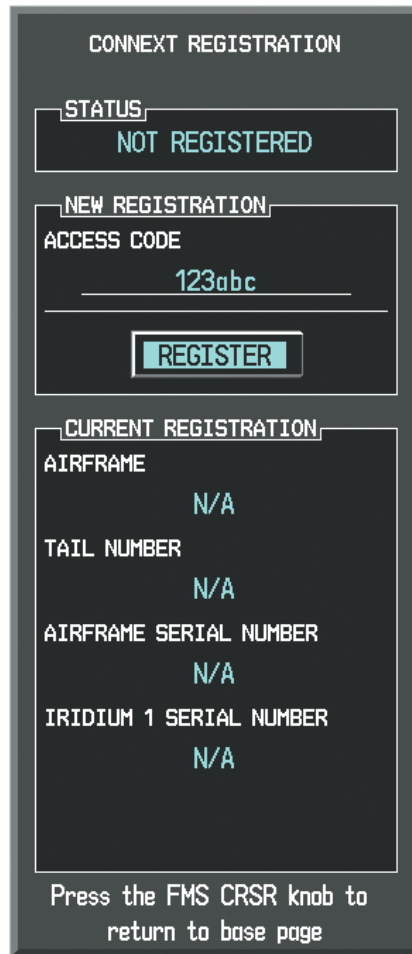

Figure 6-57 Enter Access Code
- 5) Press the **ENT** Key. The Connex Registration Window appears as shown in Figure 6-57.
- 7) Press the **ENT** Key. 'REGISTER' is highlighted as in Figure 6-57.